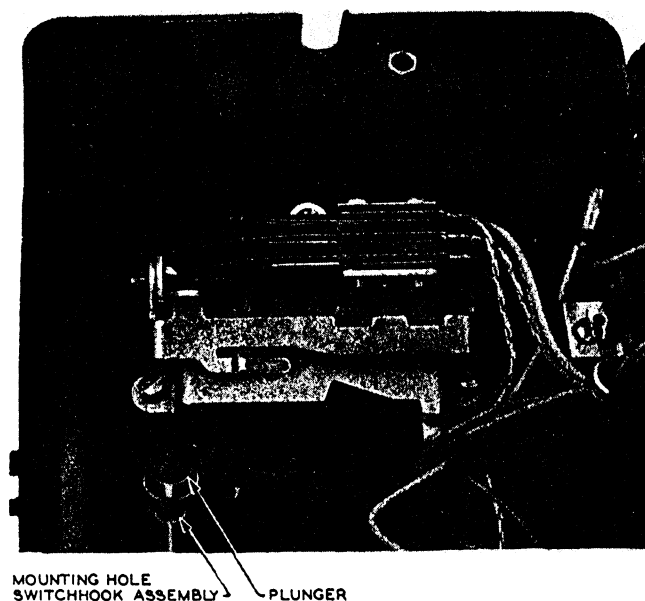

Fig. 16 — Plunger and Switchhook Assembly
3.03 The plungers and handhole cover on the 302-type telephone sets are held in place by the switchhook assembly. Fig. 16 shows the mounting of the switchhook assembly.